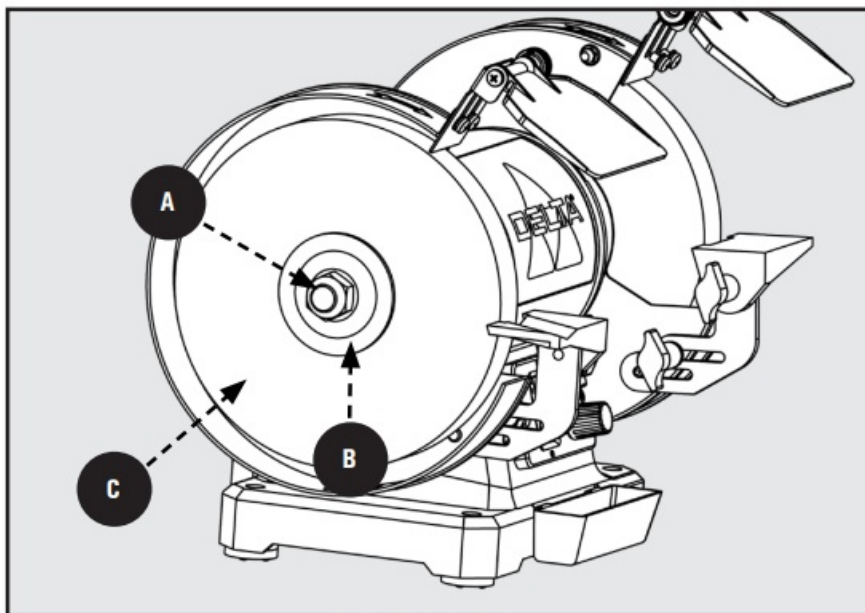

Figure 8
4. Remove the arbor nut **A** , wheel flange **B** , and old grinding wheel **C** . See Figure 8.